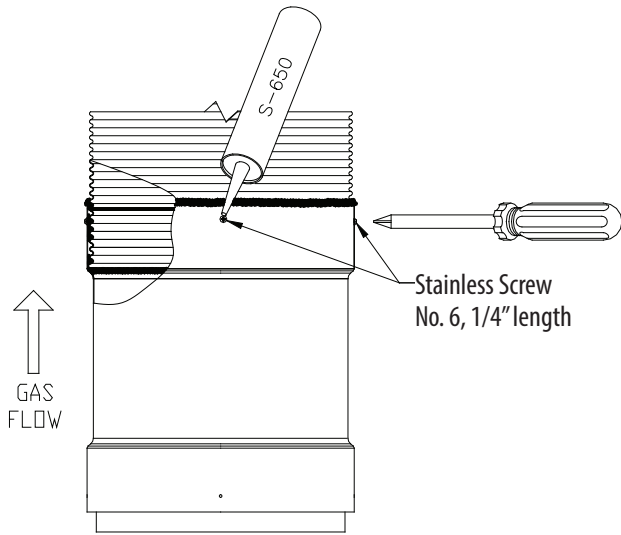

Figure 21 -Secure Seal Flex screws
- 2.5. Add the red S-650 caulking over the screws (Figure 21).